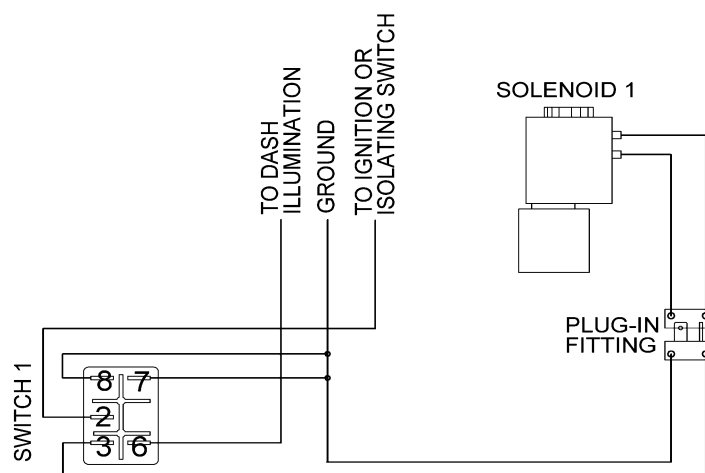

Figure 27.
When connecting the actuation switch to an alternate air source, the switch(es) should be wired according to figures 27. and 28. depending on whether one or two *Air Lockers* will be installed in the vehicle.
- ☐ If only one *Air Locker* is to be installed in the system, the switch and solenoid should be wired according to figure 27. regardless of whether the *Air Locker* has been installed in the front or rear axle of the vehicle.